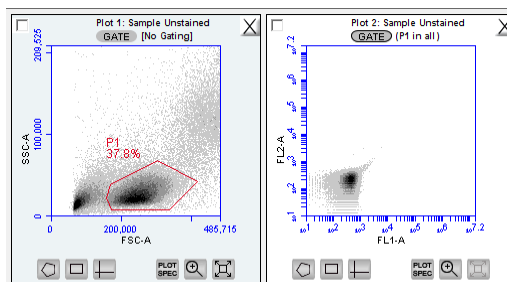

Figure 3-11 Plot 2 has been gated to include P1 (all events).
6. Select the gating option **Include P1 on all events** in the Gate dialog box and click **Apply** at the bottom of the box. The resulting gated Plot 2 is shown in Figure 3-11. Note that the text next to the gray **Gate** button will now read **(P1 in all)** instead of **(No Gating)**.